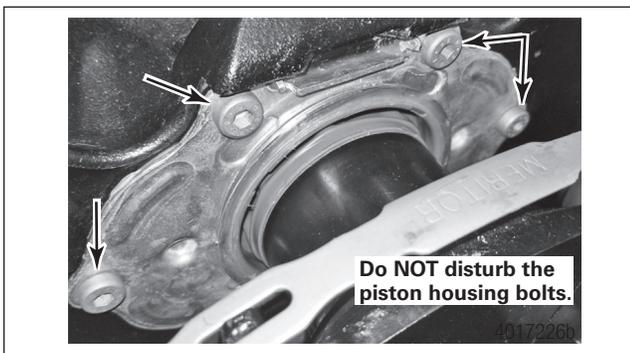

Fig. 8.4 Caliper Piston
STEP 4 - Carefully remove the housing assembly and slide pins from the carrier. Figure 8.4.